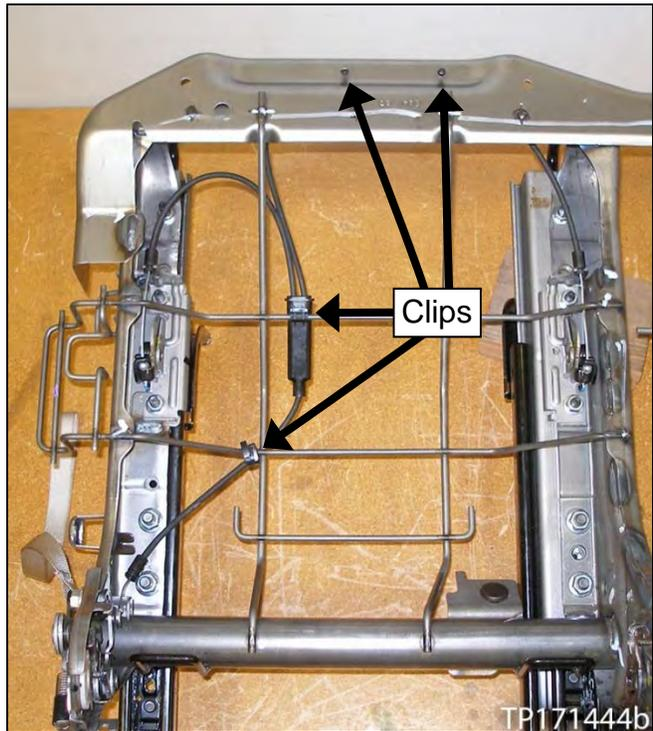
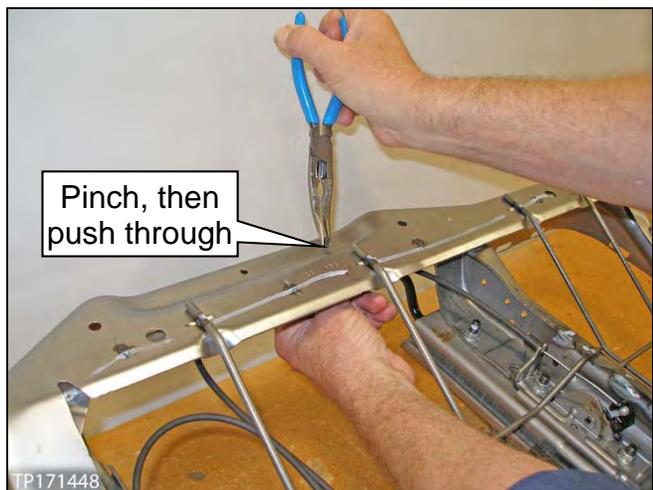

Figure 44a
Figure 45a
37. Unfasten the four (4) cable clips (see Figure 44a and Figure 45a).